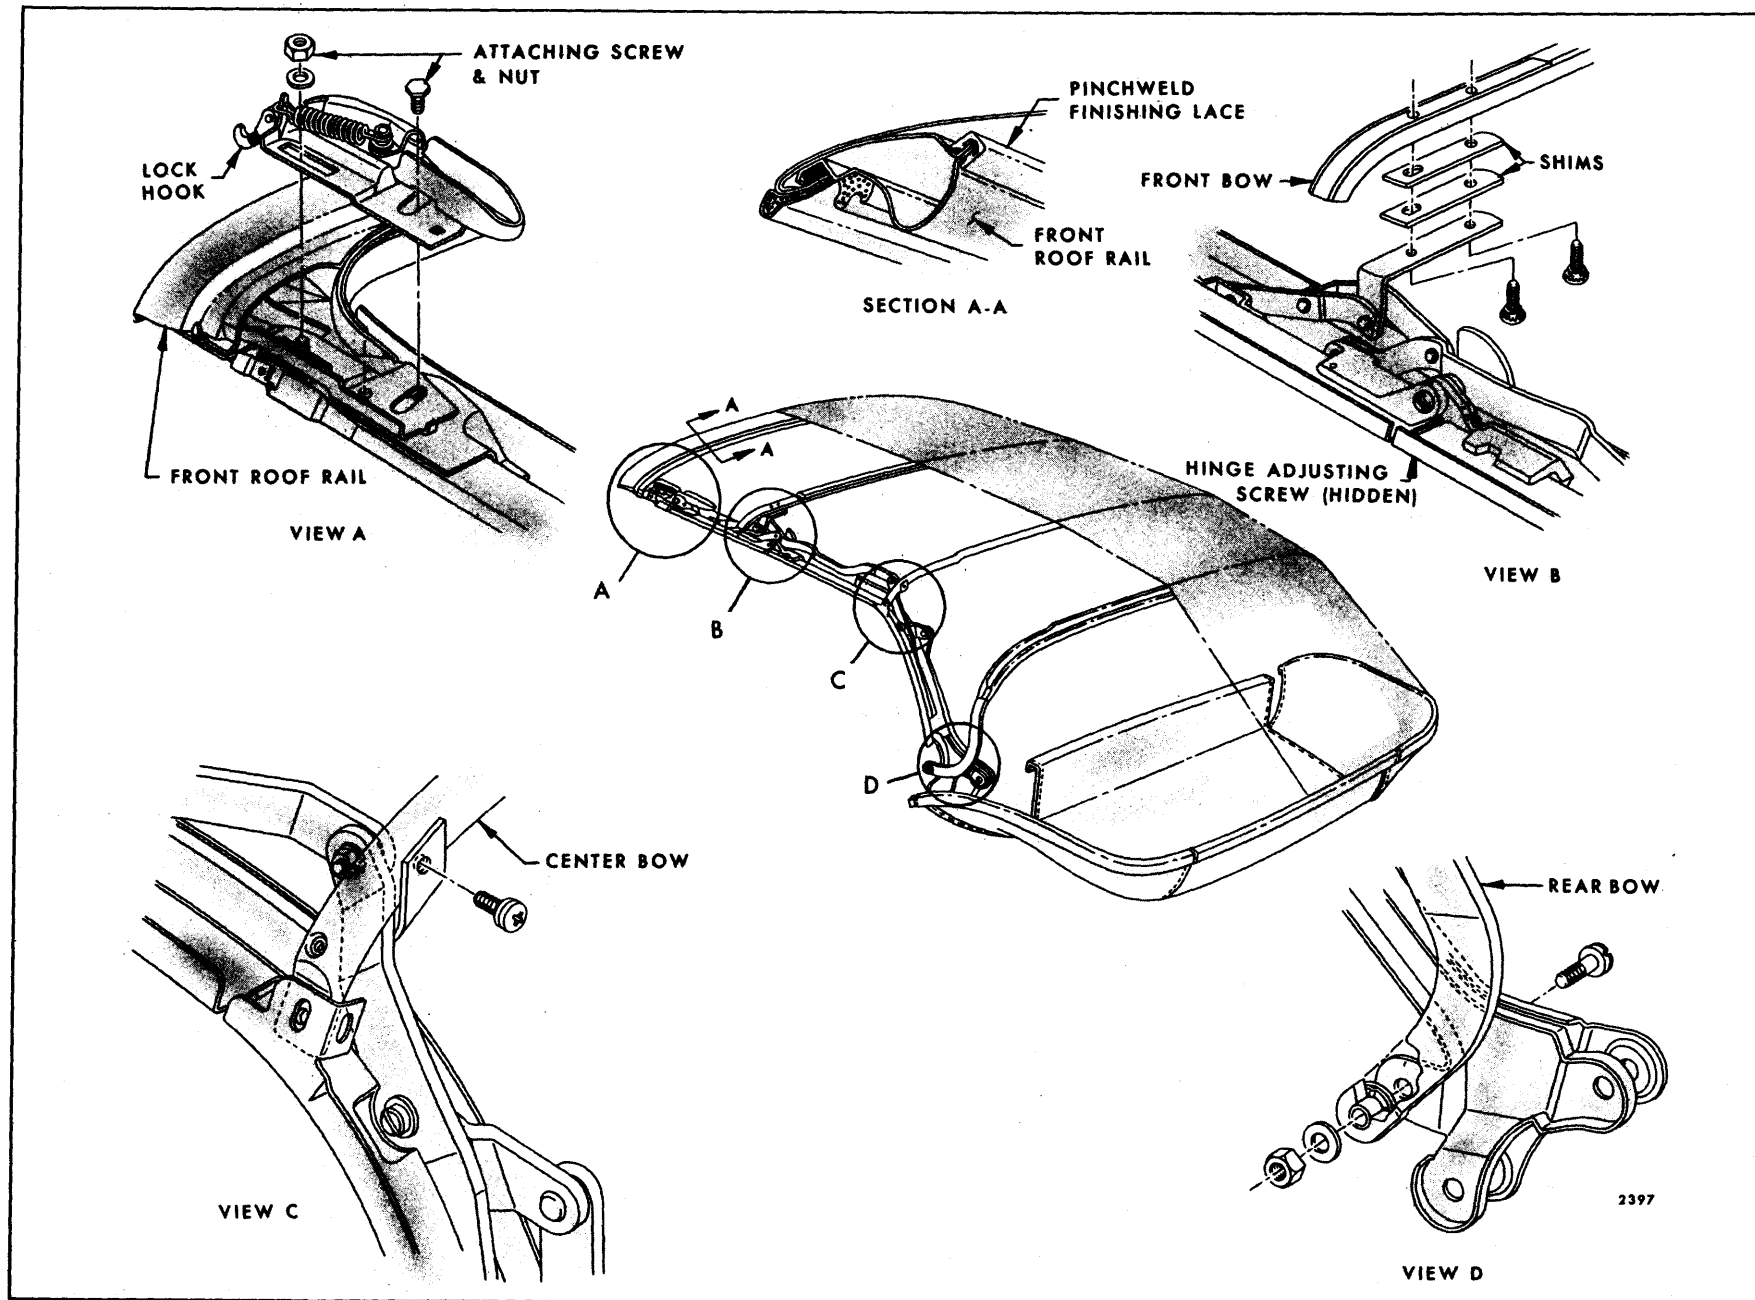

Fig. 13-84—Folding Top Adjustments - "F" Styles
rail and adjust front roof rail fore or aft as required (See View "A", Fig. 13-84).
2. With top in a half-lowered position, remove lock attaching screws; then remove lock assembly from front roof rail (See View "A", Fig. 13-84).
2. Center side roof rail hinge adjusting screw protrudes.	Back off adjusting screw (See View "B" in Fig. 13-84).